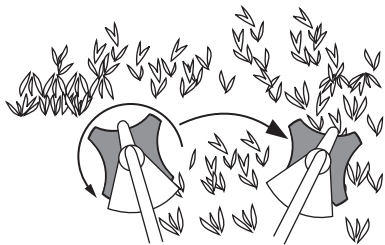

Fig. 24
- Swing the unit into material to be cut from your left to your right (Fig. 24).